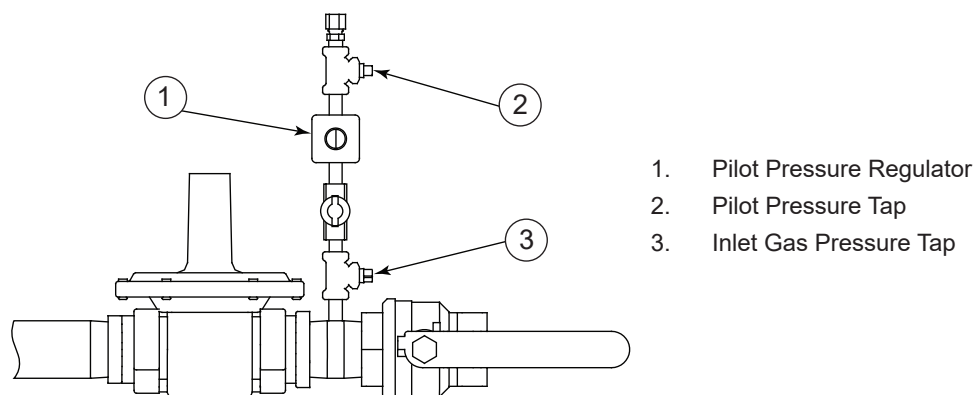

Figure 4. Pilot Gas Pressure Tap and Regulator
- Use a manometer to check the pilot pressure on the tee downstream of the pilot regulator, see Figure 4 - item # 2.
- Use a manometer to check the inlet pressure on the tee on the upstream side of the pilot regulator, see Figure 4 - item # 3.